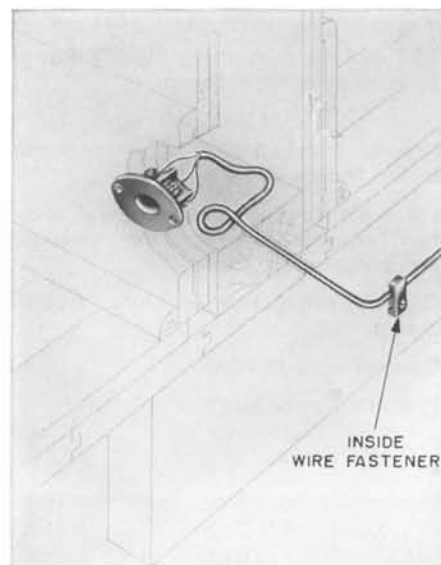

FIG. 5—47B CONNECTING BLOCK MOUNTED IN BASEBOARD
5.05 In baseboard or wall panel, mount connecting block as shown in Fig. 5.